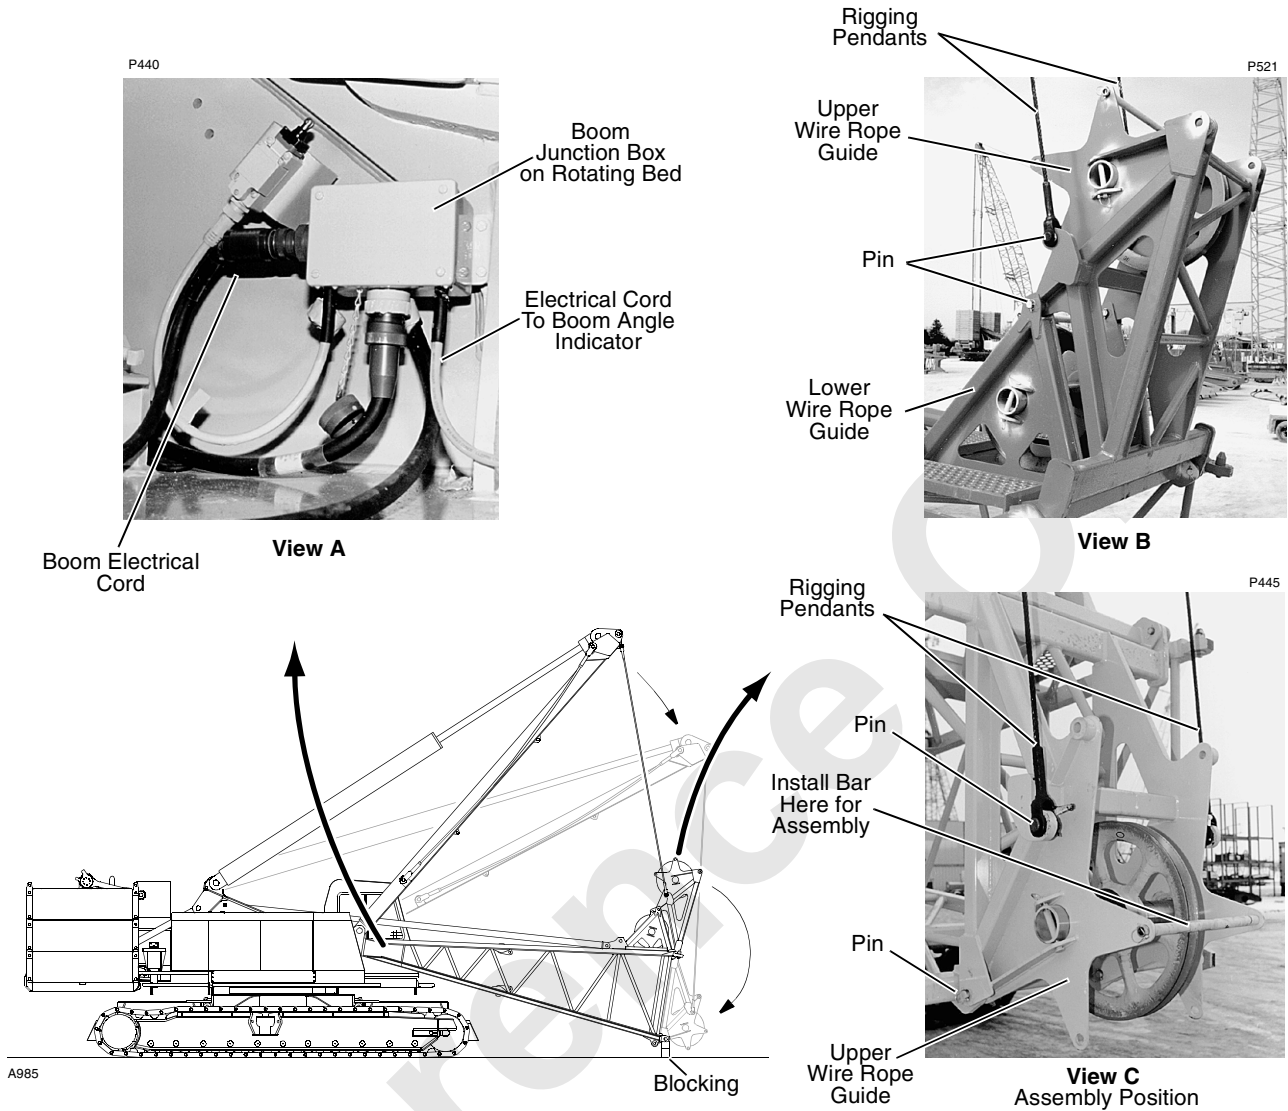

FIGURE 4-14
5. Disconnect boom electrical cord from cable reel on boom butt and connect cord to junction box on rotating bed (Figure 4-14, View A).
10. Connect rigging pendants to upper wire rope guide (Figure 4-14, View B).
16. Lower butt onto blocking approximately 15 in. (381 mm) high (Figure 4-14).
17. Unpin upper wire rope guide from lower wire rope guide (Figure 4-14, View B). Use same pins in step 19.
19. Pin upper wire rope guide to boom butt (Figure 4-14, View C).
**NOTE:** Install rope guide bar in proper holes as shown in Figure 4-14, View C.